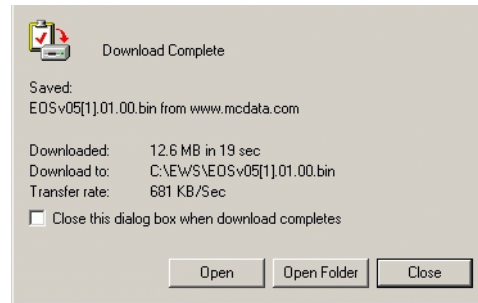

Figure 4-79 Download Complete Dialog Box
- k. A *Download* dialog box displays, showing the estimated time remaining to complete the download. When the process finishes, the dialog box changes to a *Download complete* dialog box (Figure 4-79).